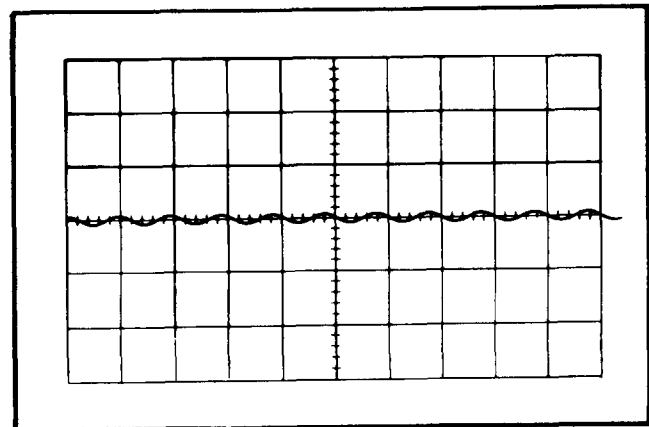

Fig. 5-16. Typical CRT display when checking high-frequency reject operation at 50 kilohertz.
c. CHECK—Stable CRT display (see Fig. 5-16) can be obtained with the B LEVEL control.
- i. CHECK—Stable CRT display (see Fig. 5-16) can be obtained with the A LEVEL control.